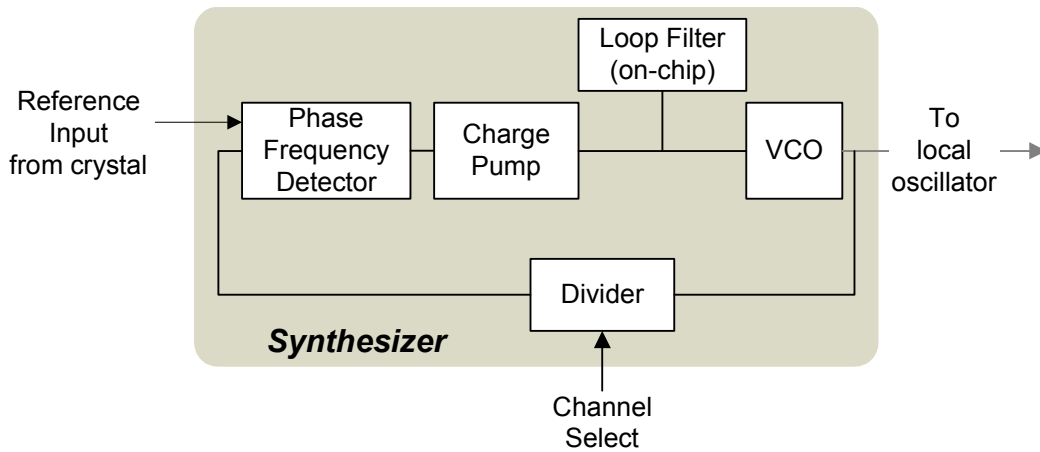

Figure 3-4. RF Synthesizer Block Diagram
The AR2112 supports two on-chip synthesizers to generate local oscillator (LO) frequencies for the receiver and transmitter mixers. Both synthesizers share the topology shown in Figure 3-4. A signal generated from a 40 MHz crystal is used as the reference input for the synthesizer. An on-chip voltage controlled